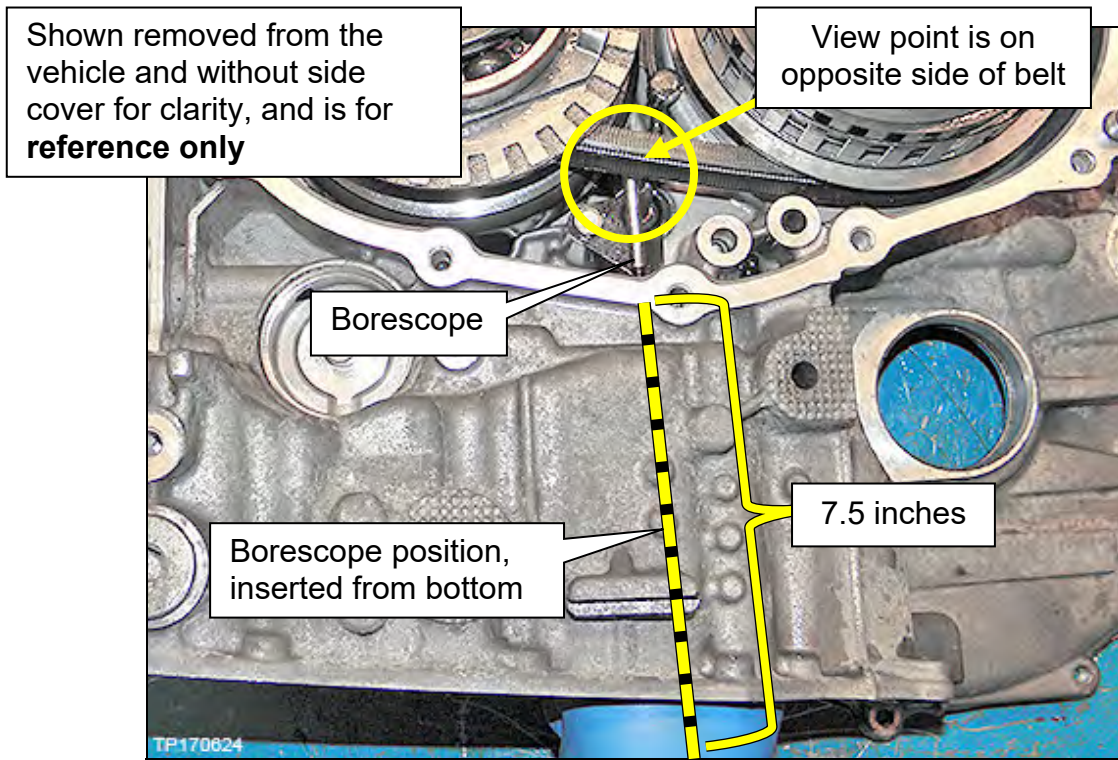

Figure 6C
- II. Insert the lens approximately 7.5 inches from the CVT oil pan gasket surface as shown in Figure 6C on page 16.